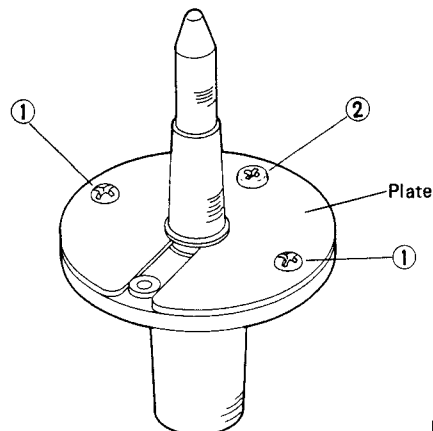

Fig. 10
5-(8) Replacement of spindle shaft (Fig. 10)
1. Remove securing screws ①, then take it out.